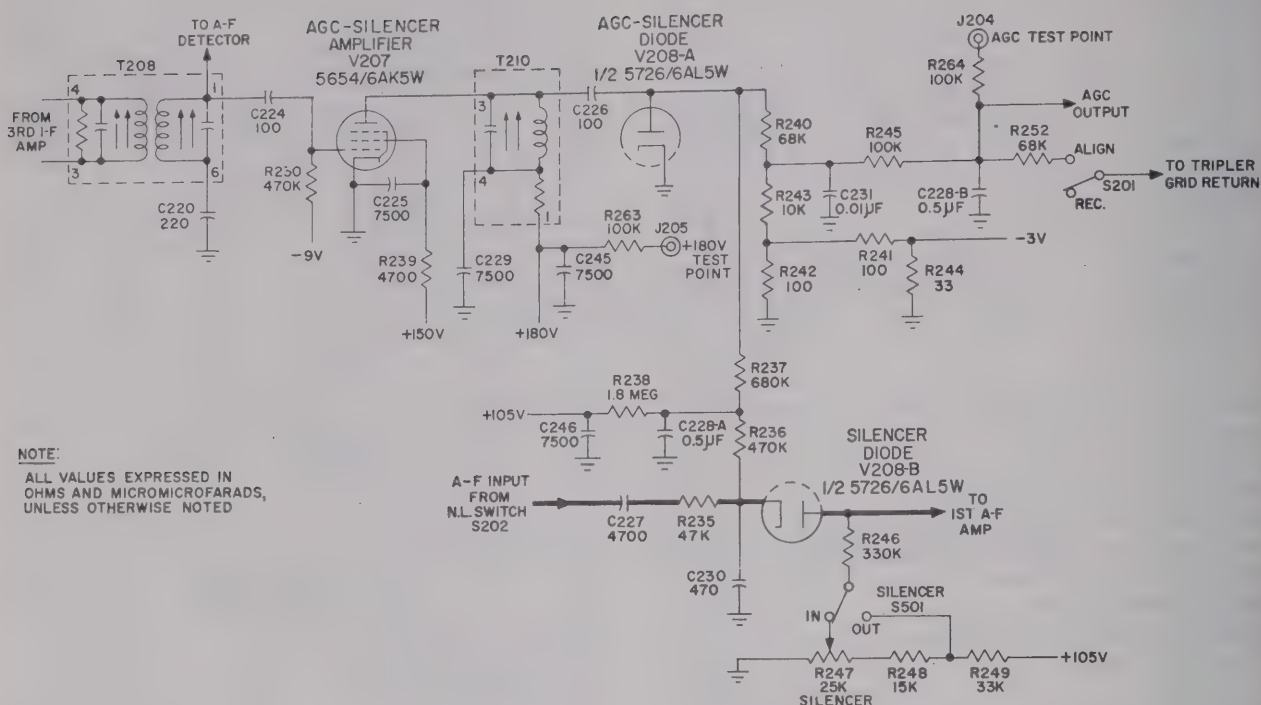

Figure 2-9. AGC and Silencer Circuits, Simplified Schematic Diagram
e. AGC-SILENCER AMPLIFIER. — The AGC-silencer amplifier, shown in figure 2-9, amplifies the output from the i-f amplifiers to a level which is suitable for use in the AGC and silencer circuits. The i-f signal from terminal 1 of transformer T208 is coupled through capacitor C224 to the control grid of V207, a 5654/6AK5W pentode amplifier. The grid is biased from the -9-volt source in the power supply, through resistor R230. The screen grid is supplied from the +150-volt source in the power supply, and is decoupled from the power supply by resistor R239 and capacitor C225. Plate voltage is supplied from the +180-volt source, through transformer T210. T210 comprises a parallel-resonant circuit at the second
f. AGC-SILENCER DIODE.— The AGC-silencer diode, V208-A, is a shunt rectifier which provides the required d-c voltages for the AGC and silencer circuits. As shown in figure 2-9, one half of a 5726/6AL5W twin diode is utilized in the circuit. When switch S201 is in the REC. position, the diode load consists of resistors R240 and R243 in series with the series-parallel network of R242, R241 and R244. The junction of resistors R241 and R244 is connected to the -3-volt bias source, so that the plate of V208-A is biased at approximately -1.8 volts. When the peak value of the 1.775-mc signal, coupled to the diode plate from V207, exceeds this delay bias, the diode conducts and a negative rectified voltage is developed across the load resistors. The voltage which is obtained at the junction of R240 and R243 is the AGC voltage; this voltage is bypassed for radio frequencies by C231 and is fed to the AGC line through a low-pass filter, R245 and C228-B, which removes the audio-frequency components from the voltage. AGC voltage is applied to the first and second r-f amplifiers, first and second
g. SILENCER.—The noise silencer (squellch) circuit is used to prevent noise from reaching the audio section of the receiver in the absence of an incoming signal of some predetermined minimum level. Silencer diode V208-B, connected between N.L. switch S202 and first a-f amplifier V209-A, permits the audio signal to pass during conduction and cuts off the audio signal when it is not conducting. V208-B is one half of a type 5726/6AL5W dual diode; see figure 2-9. The silencer may be cut in or out of the receiver circuit by means of SILENCER switch S501. SILENCER potentiometer R247 is used to adjust the silencing threshold.